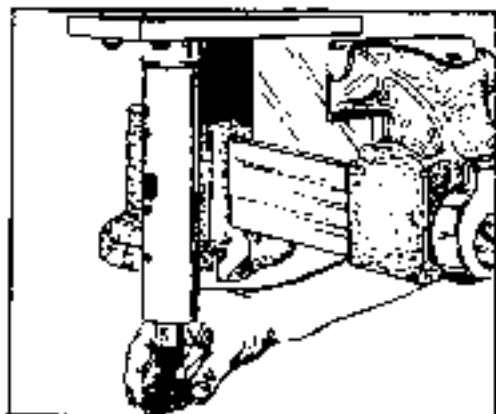

FIGURE 35.
remove dirt and water seal 43. Slide the seal (39) from the jacket tube if the seal is worn or damaged, it must be replaced. See figure 35.